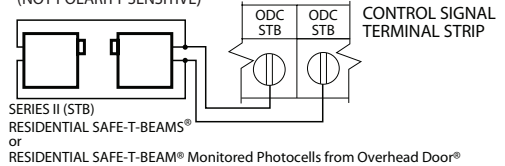

Figure 6
- 1) Monitored SERIES II (STB) photocells (P/N 35048R.S) and Residential Safe-T-Beam® Monitored Photocells from Overhead Door® (P/N 37221R). **Fig. 6.** Wiring to these photocells can be connected to either terminal (they are not polarity sensitive). (**Troubleshooting in Section 8.**)